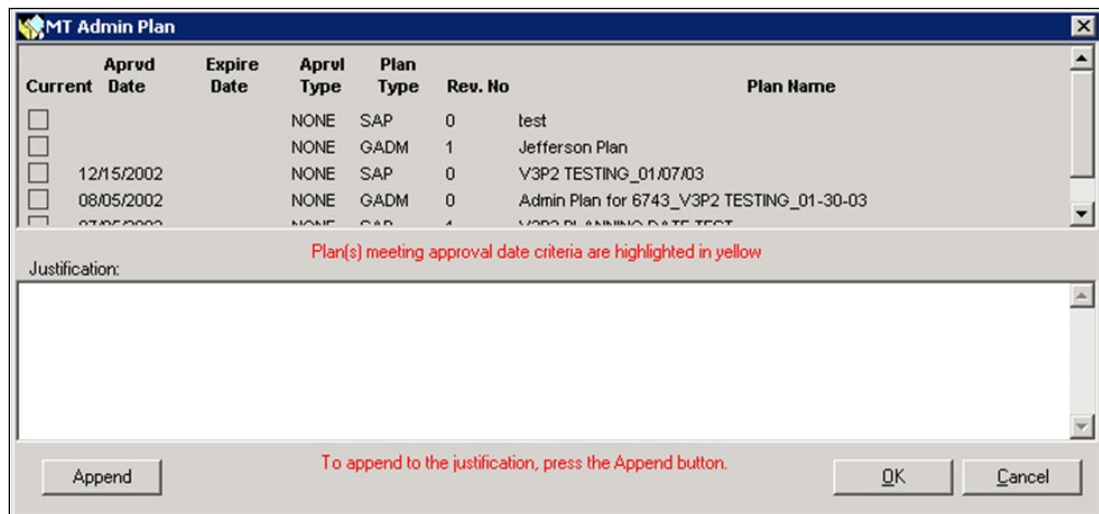

Figure 3-29: MT Admin Plan Window
- b. The MT Admin Plan window is displayed (Figure 3-29).